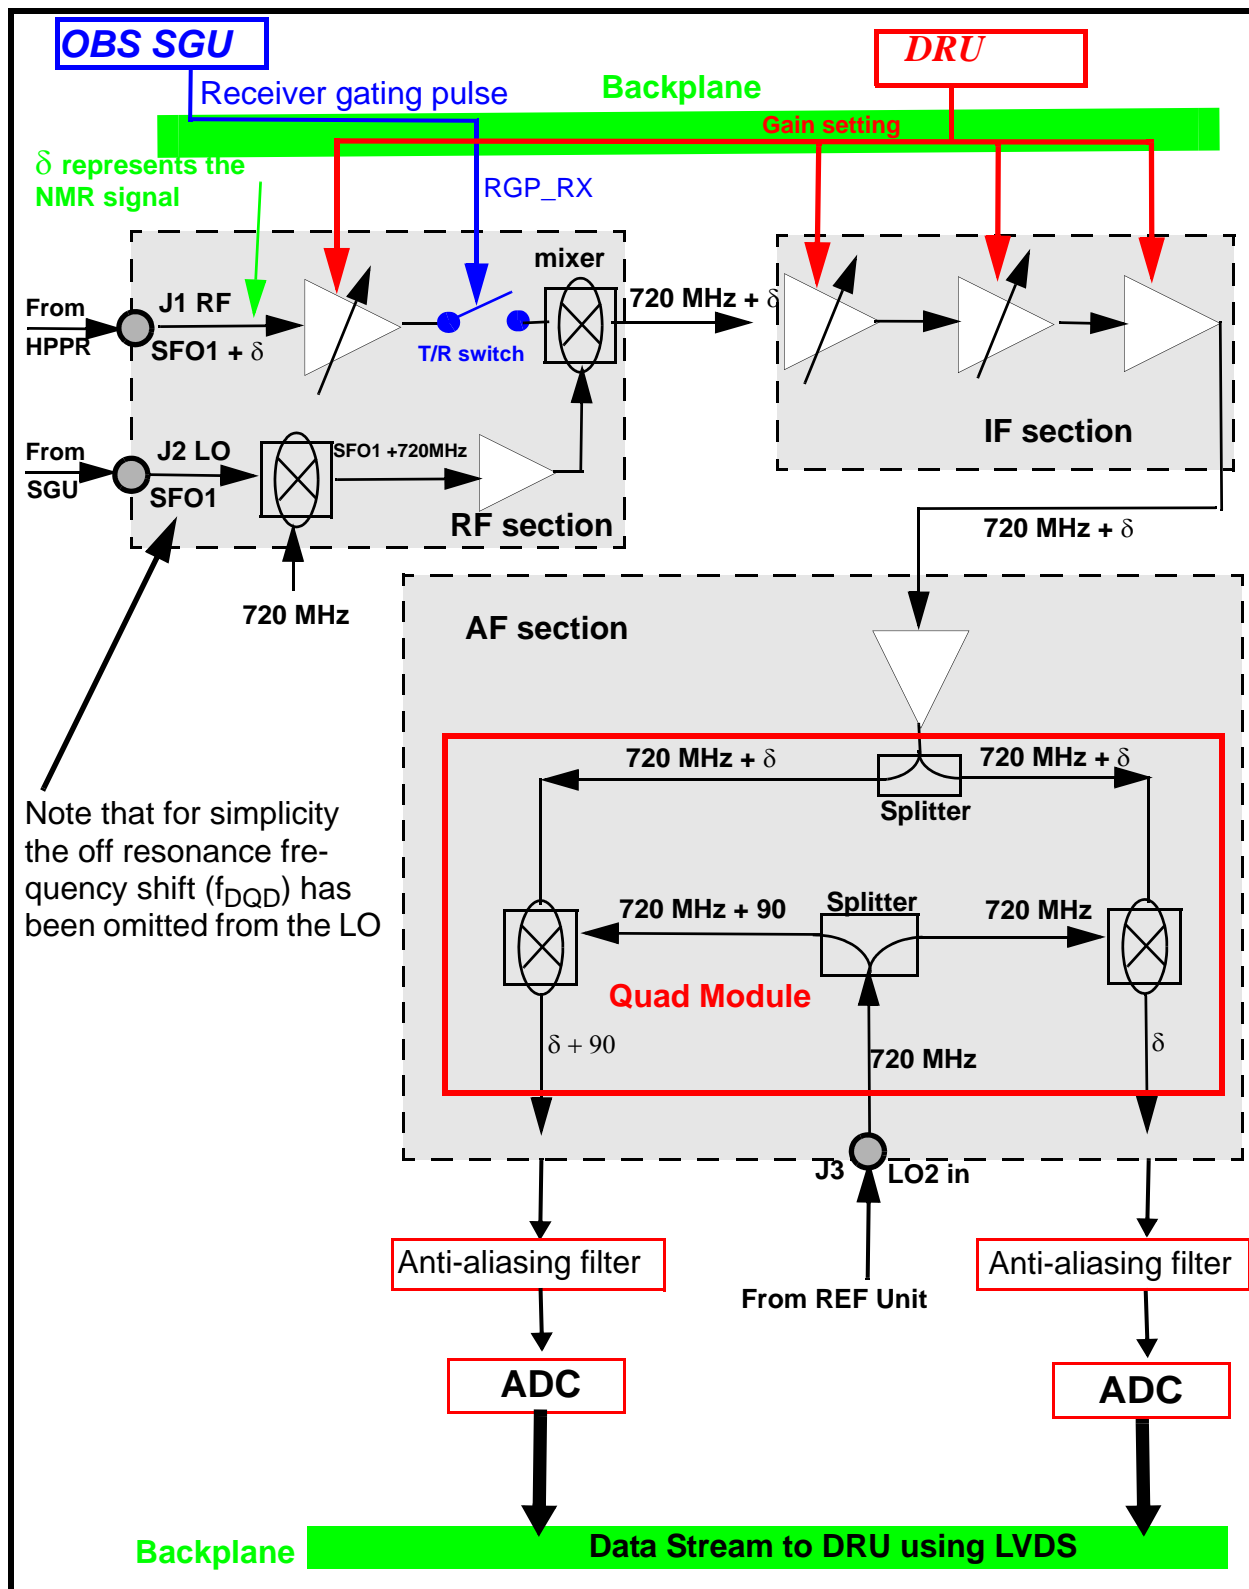

Figure 14.2. Simplified Schematic of the RXAD and RXAD-BB Receiver
At the final stage of the receiver the RF signal is split into two channels with a phase difference of 90 degrees, a standard method known as quadrature detection which is used to suppress mirrored signals. In order to ensure that the two channels provide identical amplification slight adjustment to the phase and gain of these channels may be necessary. This can be done via Unitool. The final outputs (channel A and channel B) are connected directly to the ADC. The two signals should be in the range of $\pm 5V$ and the amplitude should change with the value of RG. The only distinction between the two signals is a 90 degree phase shift and the subsequent spectra resulting from Fourier Transformation are often referred to as the 'real' and imaginary' spectra. Once digitized the two data streams are delivered onto the backplane where they are transmitted over a LVDS type link along the backplane to the DRU (see Figure 14.2).
This signal has a frequency of $SFO1 + f_{\text{ddq}}$ and is only present when the receiver is open. The signal which is generated by the Observe SGU is used to demodulate the NMR signal from the carrier frequency to yield a signal of 720 MHz plus δ where δ is the NMR signal (see Figure 14.2.)
2. adjust the gain, phase and baseline for the quad module (the quad module is a final critical element of the receiver which implements quadrature detection.(see Figure 14.2.)